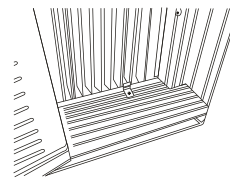
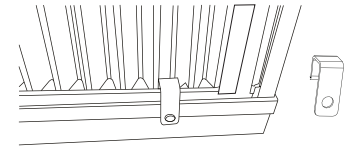

Fig.7A
Fig.7B
A. Select the appropriate frame lock and place between the window sill and the accordion panel frame as shown in Fig. 7A (for wooden windows) and Fig. 7B (for vinyl windows).